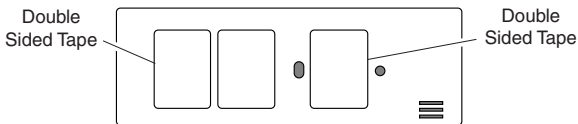

Figure 4
- Peel the protective backing from one side of two pieces of the double sided tape, and apply the tape to the areas on the back of the transmitter as shown in Figure 4.